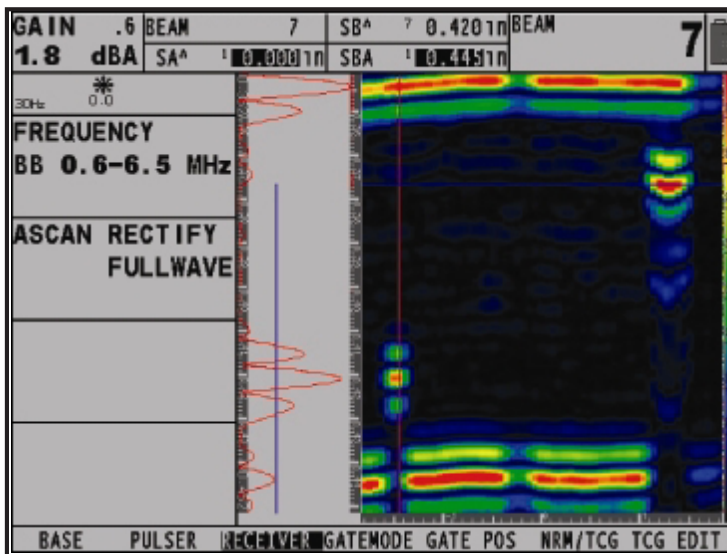

Figure 18: Image with fullwave rectification
*Full-Wave Rectification* combines the positive and negative rectified signals together, and displays both of them in a positive orientation. In the frame view image, both the negative and positive components are displayed (Figure 18 on page 38). Use the following procedure to select a rectification mode: